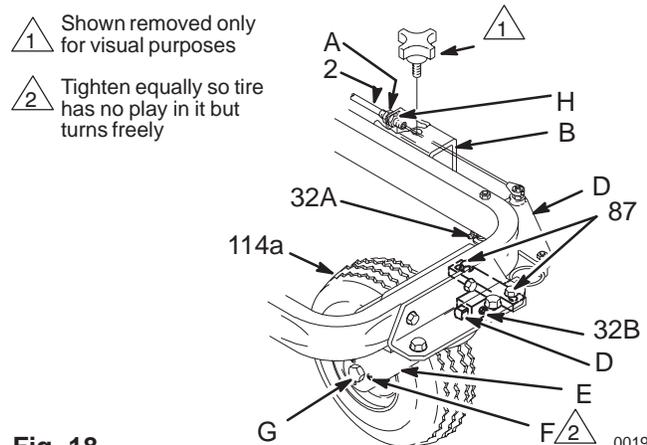

Fig. 18 0019
2. Even tension on the rear tire bearings (adjust nuts (10) as needed.) See page 40.
3. Even tightness of the caster screws (F). See Fig. 18.
Maintenance See Fig. 18
Caster Tire Replacement See Fig. 18.
Caster Cable Tension Adjustment See Fig. 18.
1. Loosen the two capscrews (87). Grasp the tire and visually align it. Tighten the capscrews evenly. Move the unit forward. If the caster appears straight, start the unit (use water) and spray along a true straight line. Continue adjusting as necessary. See Fig. 18.